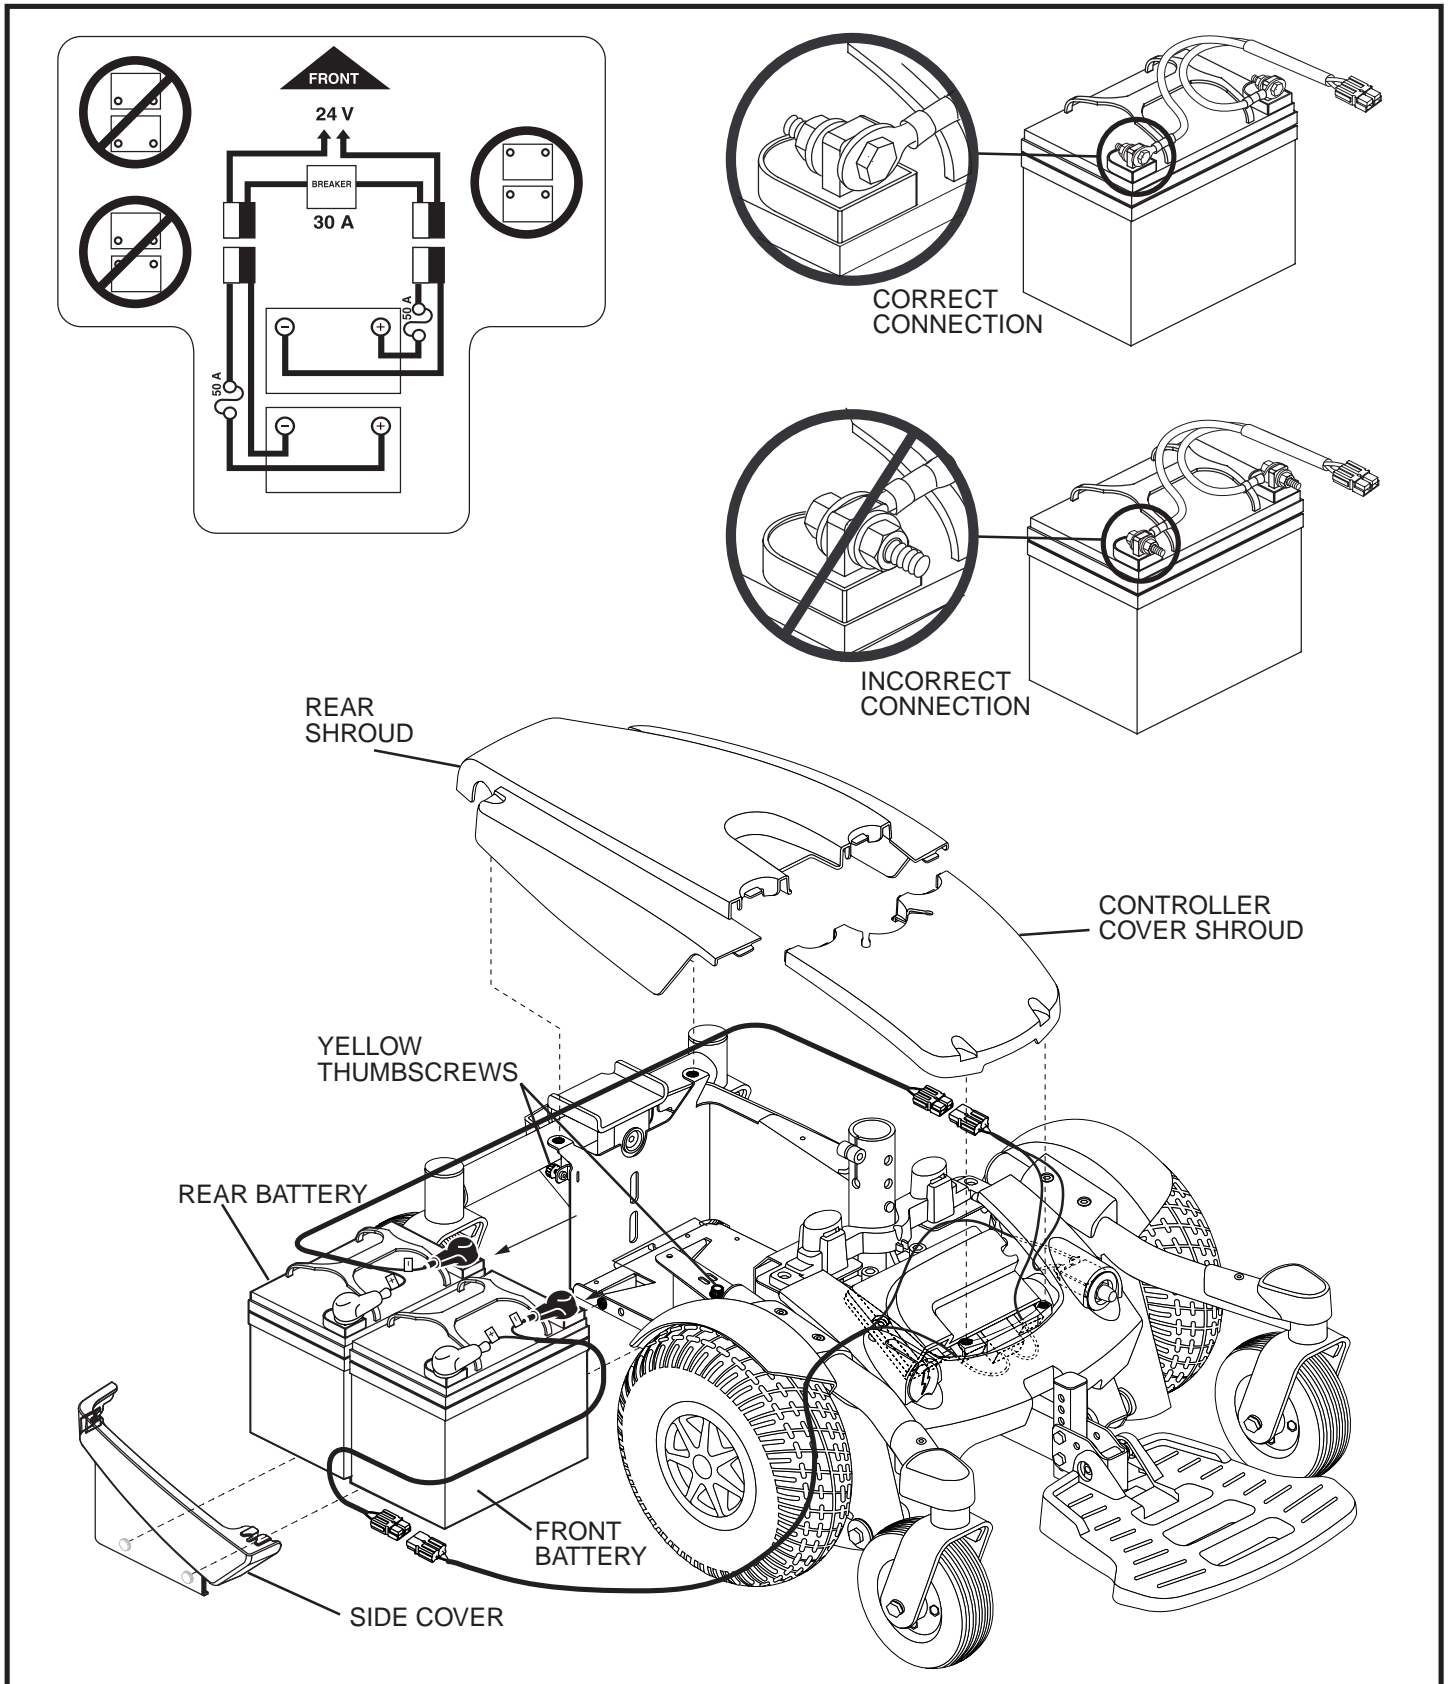

Figure 24. Battery Installation (Seat Removed for Clarity)
3. Remove the rear shroud. See figure 24.
5. Disconnect the rear battery harness from the power base. See figure 24.
8. Disconnect the front battery harness from the power base. See figure 24.
10. Remove the battery harnesses from the old batteries and install them onto the new batteries. Make sure that the hardware is facing the correct direction. See figure 24.
11. Place the front battery into the power base. Make sure that the terminals are facing the front of the power base. See figure 24.
14. Place the rear battery onto the power base. Make sure that the terminals are facing the front of the power base. See figure 24.